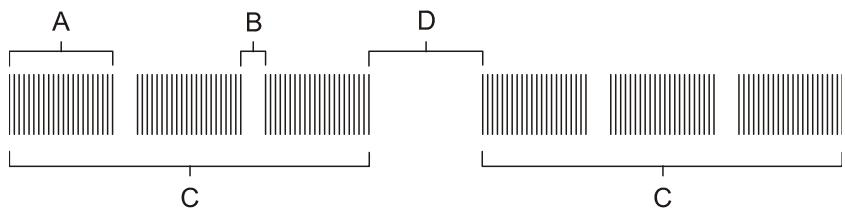

Figure 67: Burst pattern
The parameters that are to be set for each burst pattern are shown in Figure 67.
Key to Figure 67:
4. Use the numerical input keys to enter the desired number of pulses for each burst (see Figure 67, A).